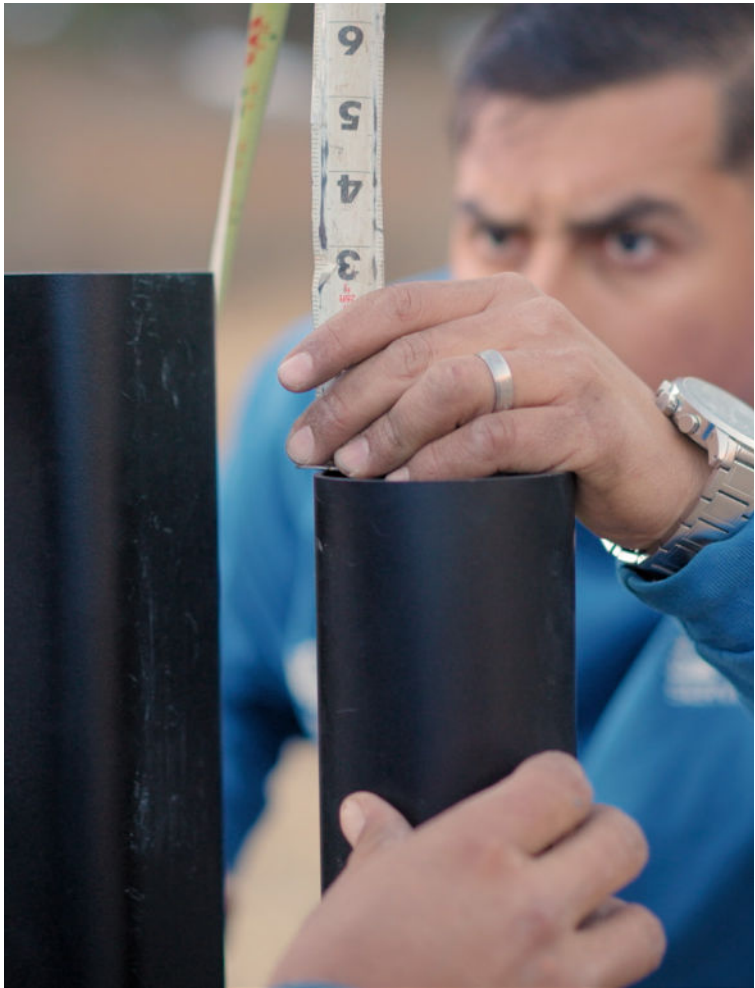

Figure 4
4. Do this until you measure 1370 mm from ground to top of the gate post. The fence post height should measure 1450 mm. Ensure the distance between the posts' heights is exactly 75 mm and the gate and fence posts are square (Figure 4).